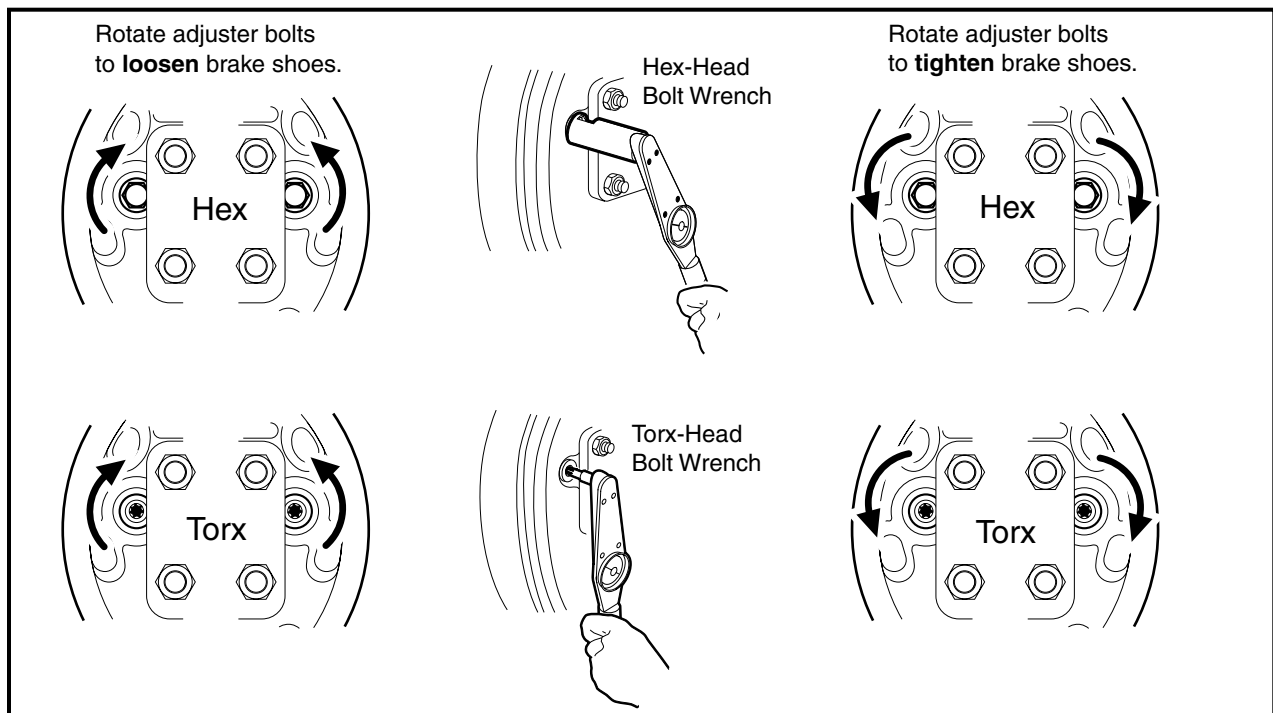

Figure 6a-16 Loosen or Tighten Brake Adjusters
18. Install the dust cover (1) (**Figure 6a-4, Page 6a-9**).
19. With the brake drum properly seated and secured, use a torque wrench with a Torx #T-27 driver, or hydraulic brake adjuster (CCI P/N 102169401) and gently adjust the clearance between the brake shoes and brake drum by turning each of the two adjuster bolt heads on the back of the brake cluster plate as shown (**Figure 6a-16, Page 6a-19**). See following **CAUTION**.
- Do not apply more than 65 in-lb (7.3 N-m) of torque to any of the adjuster bolts. Overtightening the adjuster bolts could result in damage to the brake cluster components or the separation of the bolt (4) from the adjuster (3) (Figure 6a-3, Page 6a-4 or Figure 6a-21, Page 6a-25).
20. Install the wheel and finger-tighten the lug nuts (21) (Figure 6a-3, Page 6a-4).
1. Place the brake drum (15) onto the wheel bolt flange and brake cluster (Figure 6a-21, Page 6a-25).